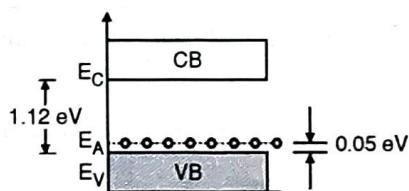

Fig. 3.7.4 : Acceptor level in p-type semiconductor
- The addition of an impurity adds an allowed level E_A at a very small distance above the top of the valence band as shown in Fig. 3.7.4
- At $T = 0^\circ\text{K}$ all acceptor levels at E_A are vacant as shown in Fig. 3.7.4 and valence band is full but the conduction band is empty.